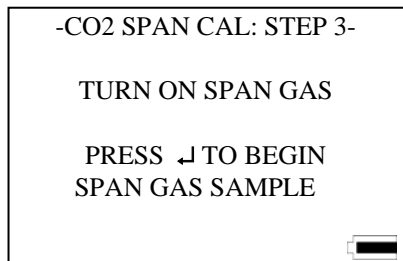

Figure 4-8: CO₂ Span Calibration: Step 3 Screen
- Turn on the span gas (0.3 L/min) and press the \downarrow key to begin calibrating the span (Figure 4-8).